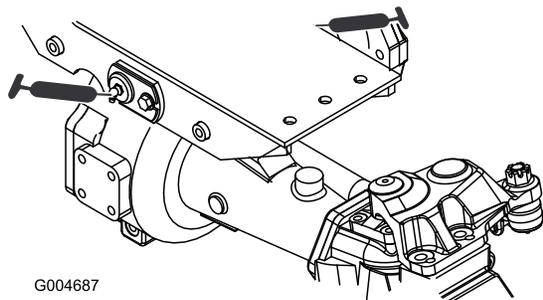

Figure 43
- 2 front and rear-axle-pivot bushings (Figure 43)